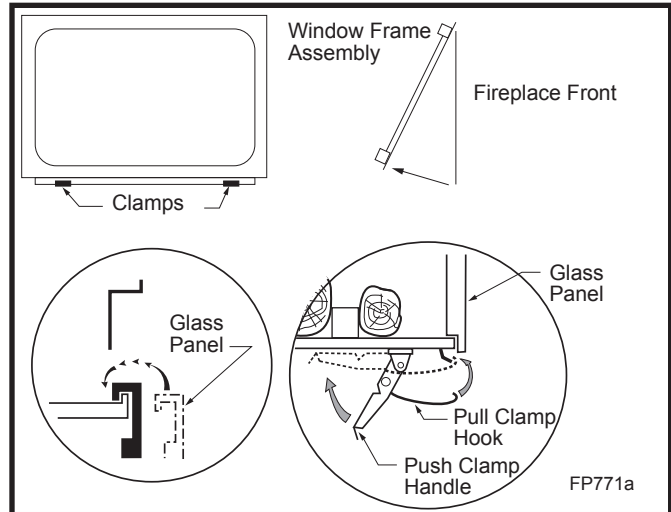

Fig. 47 Window frame assembly removal.
5. Release the two clamps along lower edge of the frame by pulling down on clamp handles. (Fig. 47)
Remove front glass. (Refer to "Window Frame Assembly Removal" Section, Fig. 47) Remove logs from packaging.